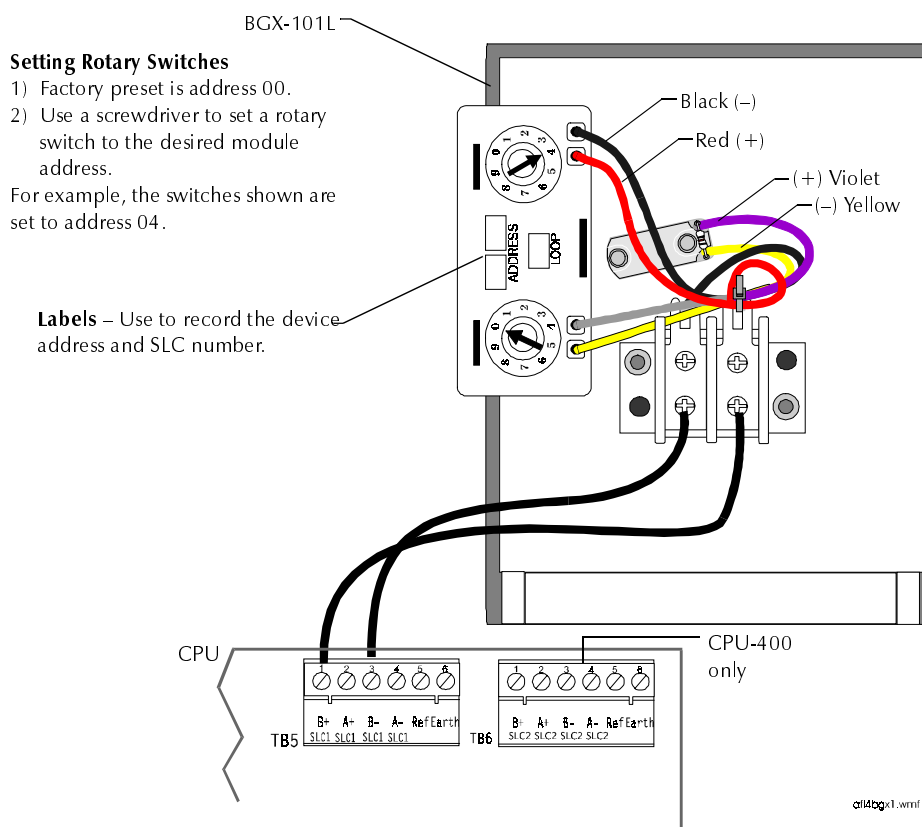

Figure 2-80 Typical SLC Wiring of a BGX-101L Pull Station
3. Set the SLC address of the BGX-101L as shown in Figure 2-80.
Figure 2-80 shows typical wiring for a BGX-101L (back view shown) and provides instructions for setting the SLC address: